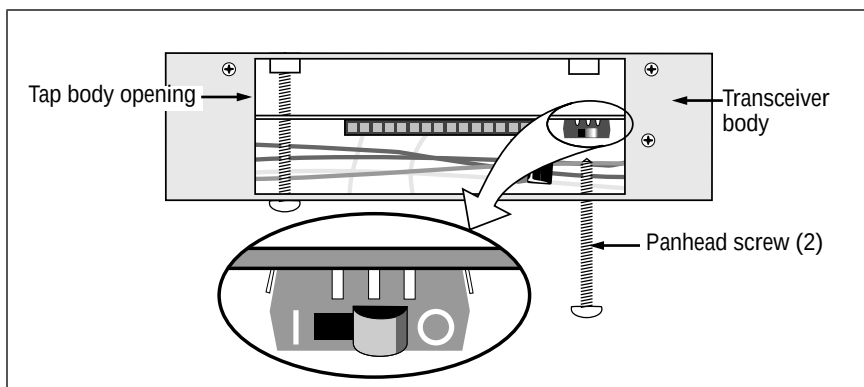

Figure 1: Location of the Heartbeat Switch
3. Locate the PCB inside the tap body opening. See Figure 1. With the transceiver facing you, the SQE/Heartbeat switch is on the right side of the circuit board. Set the switch to the desired setting (“1” = SQE enabled; “0” = SQE disabled).